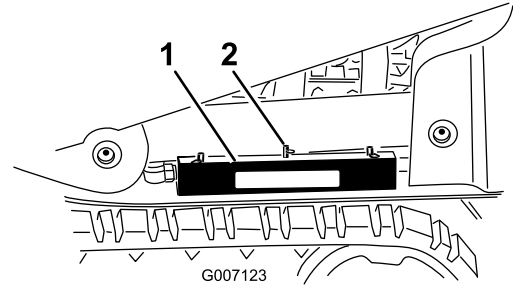

Figure 29
4. Remove the hairpin cotter and clevis pin securing the cylinder lock to the frame (Figure 29).
5. Place the cylinder lock in its storage location on the frame and secure it with the clevis pin and hairpin cotter (Figure 29).